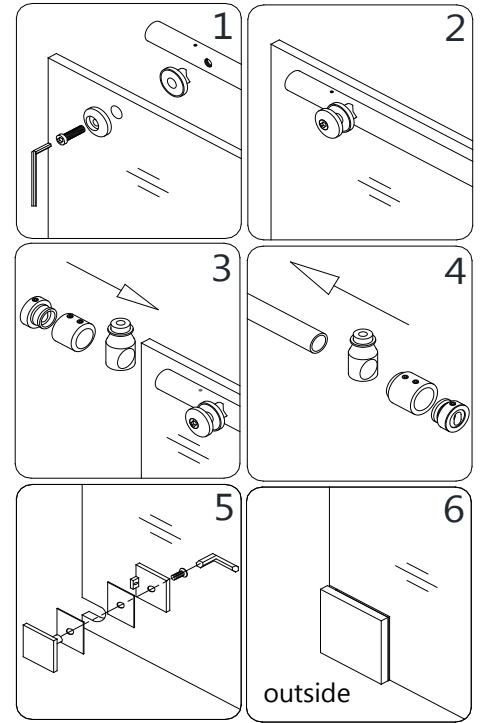
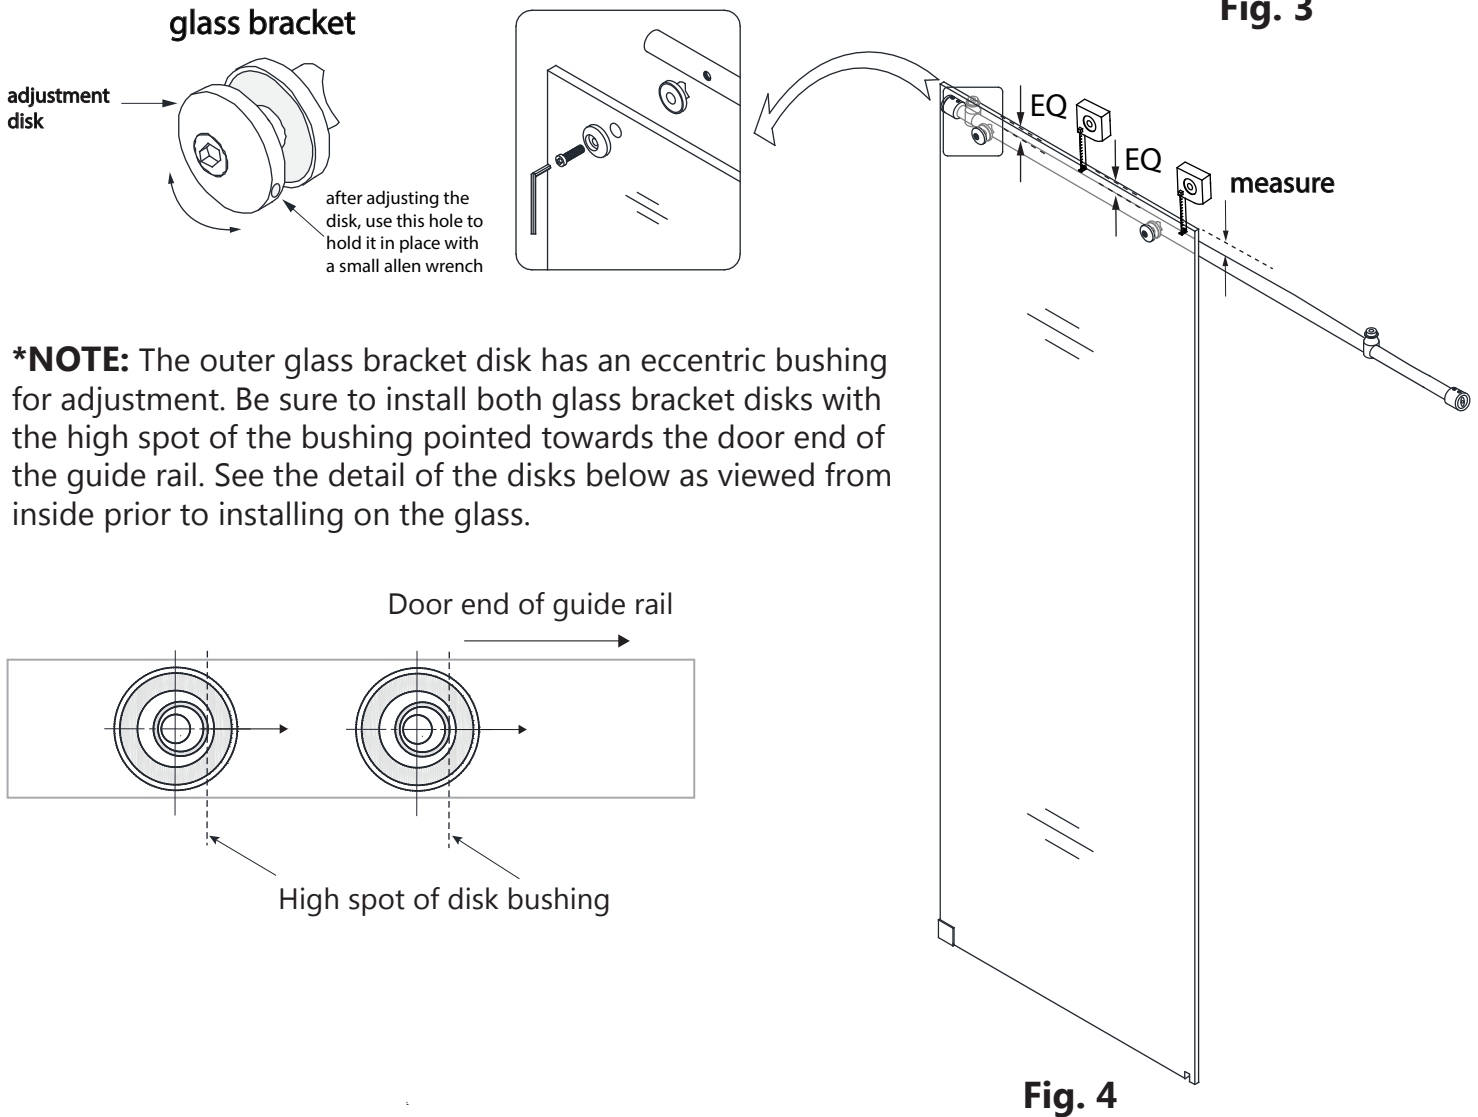

Fig. 3
Fig. 4
3. Attach the **Upper guide rail (#03)** to the **Stationary glass (#02)** with the **Glass brackets (#07)** and tighten the bolts into the pre-drilled holes in the **Upper guide Rail (#03)**. Make sure both adjustment disks are installed in the same direction with the high spot towards the door end (see ***NOTE** below). Make sure the guide rail is parallel with the top edge of the glass (see Fig. 4).
See **Fig. 3** and **Fig. 4** for details
TIP: Adjust the installed **Upper Guide rail (#03)** to level as necessary using the **Guide rail brackets (#08)** first and then the **Glass brackets (#07)** (see **Fig 4** in **step#3**). Start adjustments from the door end.